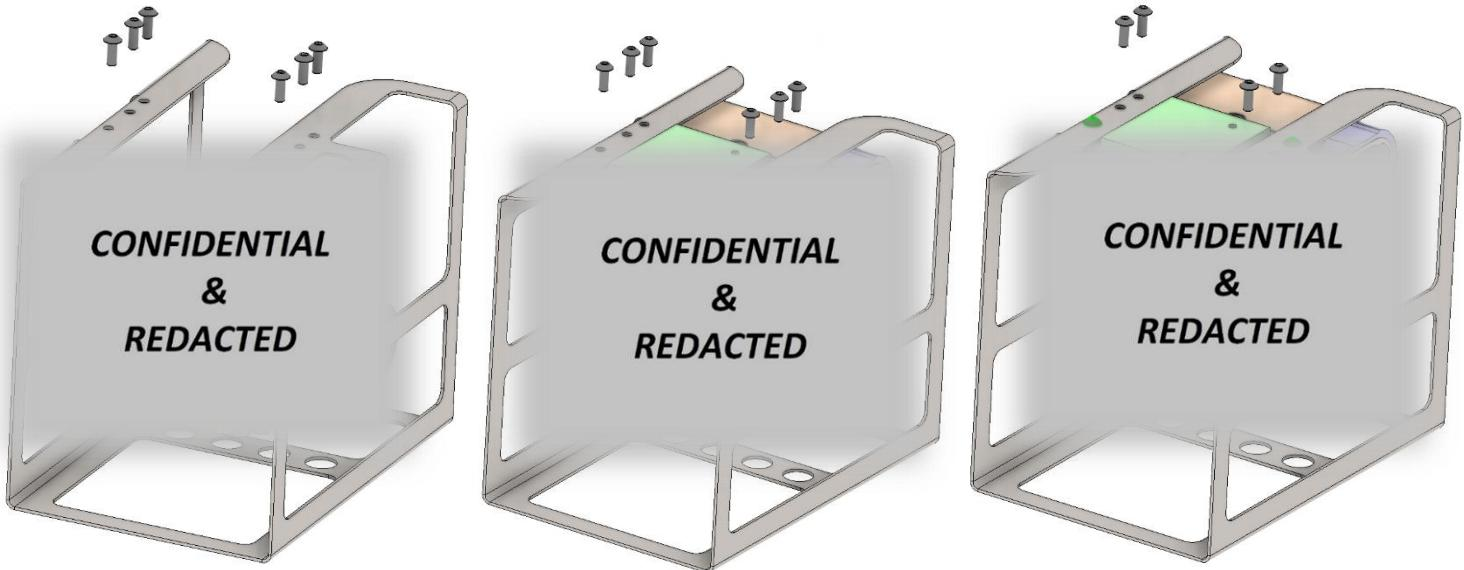

Figure 15 - Attaching Part and Part to Part (DWG)
9.4.2 **PART + PART SUBPART + PART.** Attach the mounting plate (000000-00) to the body and then the cage to the mounting plate as follows. Refer to Figure 15 and Figure 16.